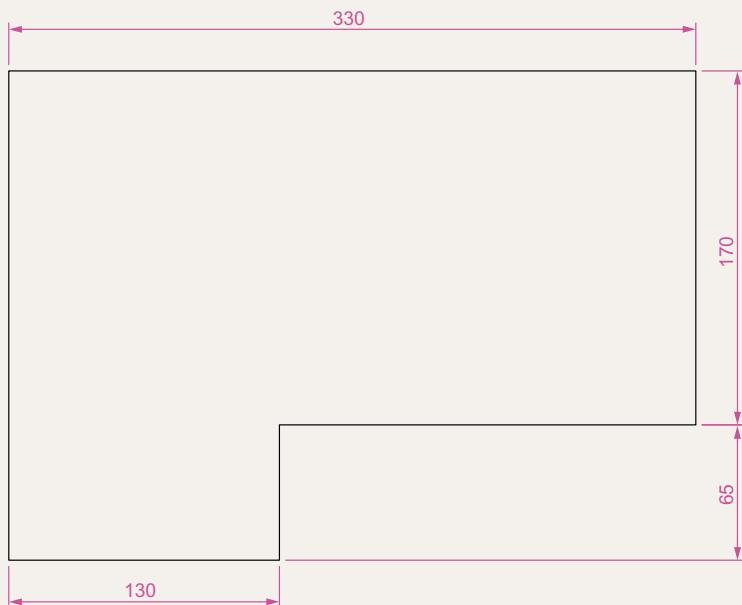
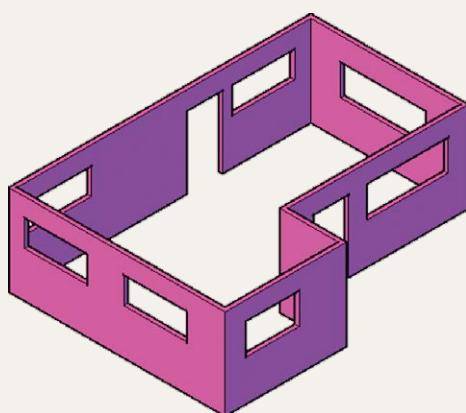

Fig. 12.42 Exercise 1 – outline for polyline
Fig. 12.43 Exercise 1
1. Fig. 12.42 shows the pline outline from which the polysolid outline (Fig. 12.43) has been constructed to a height of **100** and **Width of 3**. When the polysolid has been